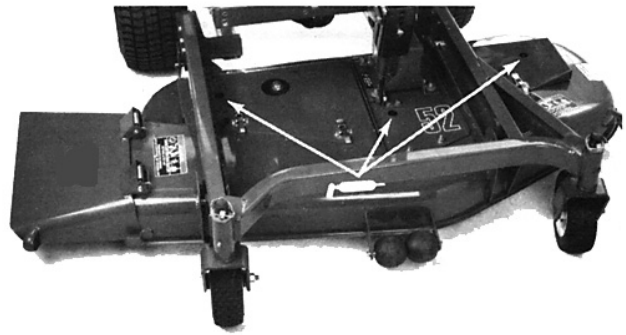

Figure 19
- blade spindle bearings (Fig. 19)